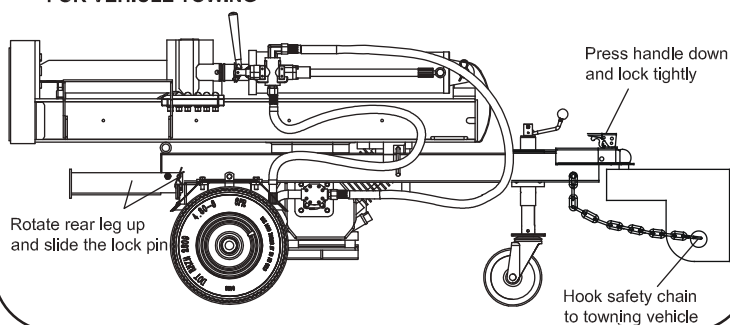

Figure 4-5
3. Swing Jockey Wheel up, See Figure 4-5.